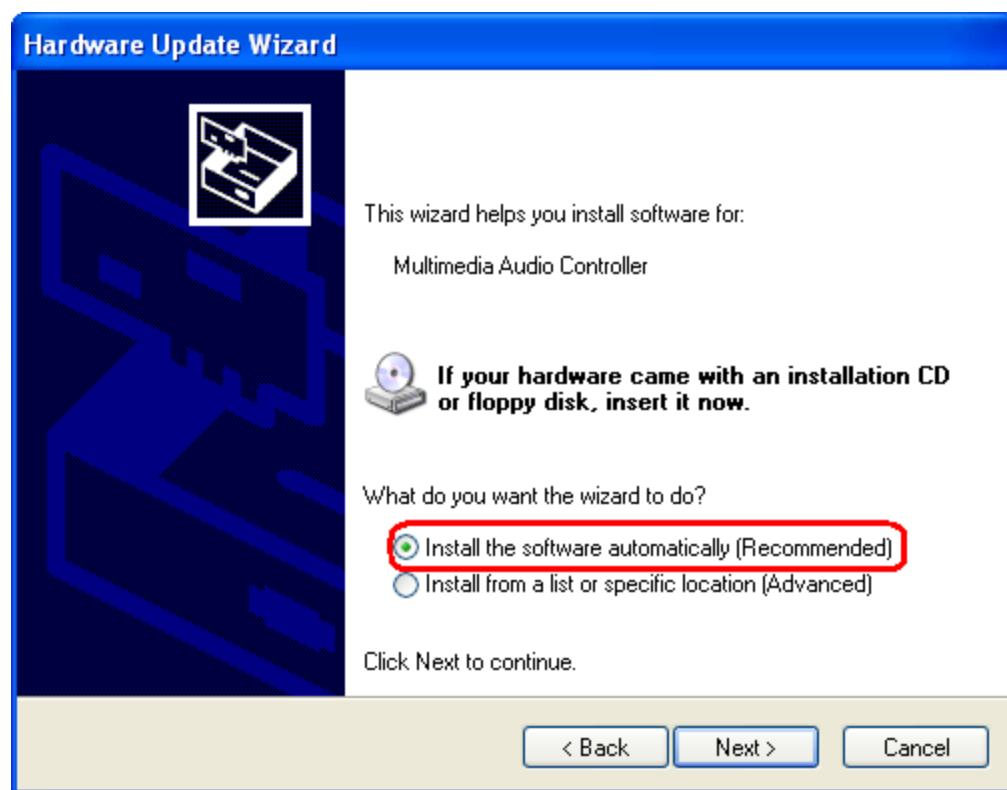

Figure 7-19: Audio Driver Installation Start
Step 35: The screen in **Figure 7-19** appears.
Step 36: Select the recommended option in **Figure 7-19**.